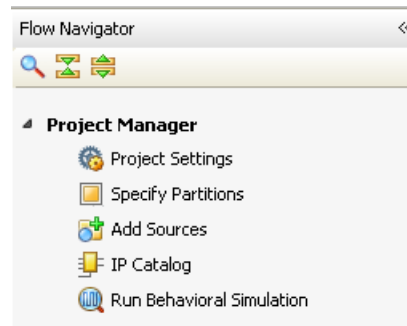

Figure 13-2: Synthesis and Implementation Settings
1. Select **Specify Partitions** in the Flow Navigator, under Project Manager, as shown in Figure 13-2. This will open the Specify Partitions dialog box.